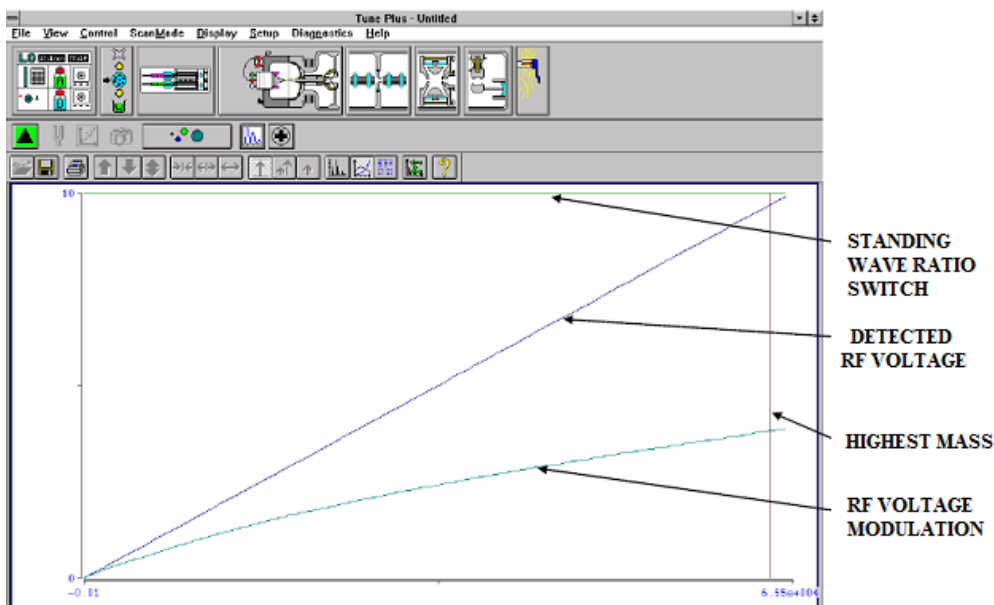

Figure 3. Graph view for ring electrode RF voltage modulation tuning.
6.2.7.3. Click on Start button. The Graph view should look as displayed in Figure 3 with the following characteristics: the standing wave ratio switch line should be at 10 V over the entire range; the detected RF voltage should be a straight line that begins at the origin and intersects the standing wave ratio switch line near the highest mass line; the RF voltage modulation should be a curved line that begins at the origin and intersects the highest mass line at a value between 3.5 and 4.5 V.